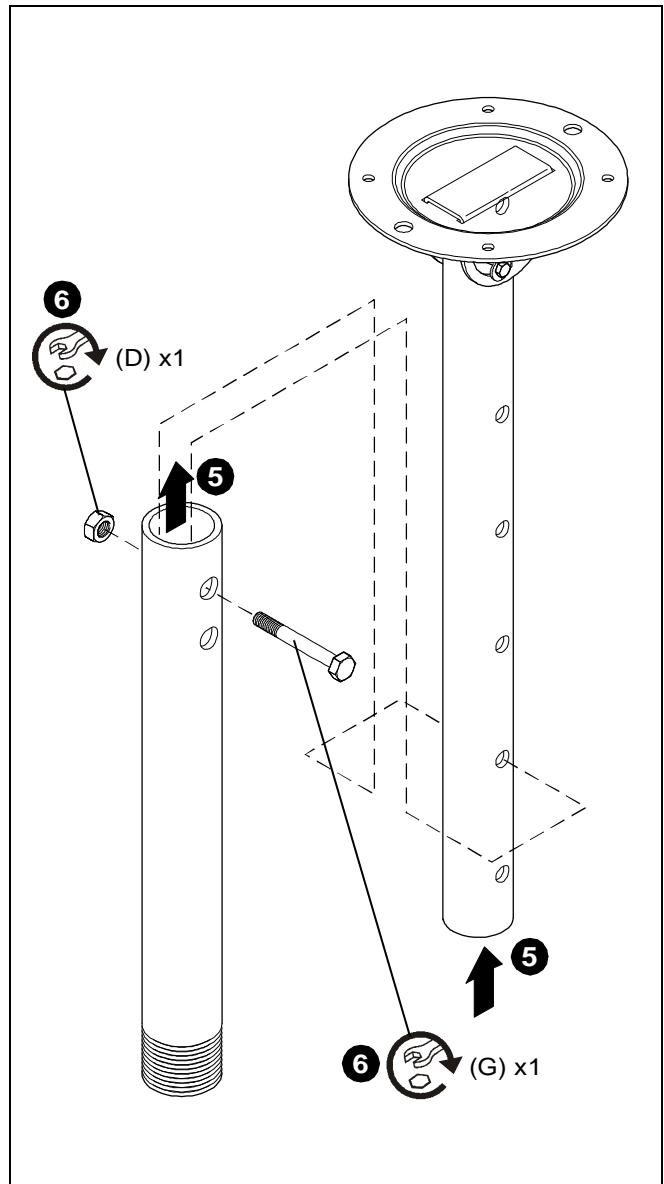

**Figure 3**
1. Orient inner column (B) as shown below. (See Figure 3)
2. Slide inner column (B) upward and between mounting tabs in ceiling plate (A). (See Figure 3)
3. Secure inner column (B) to ceiling plate (A) using two button head cap screws (F), four flat washers (E) and two lock nuts (D). (See Figure 3)